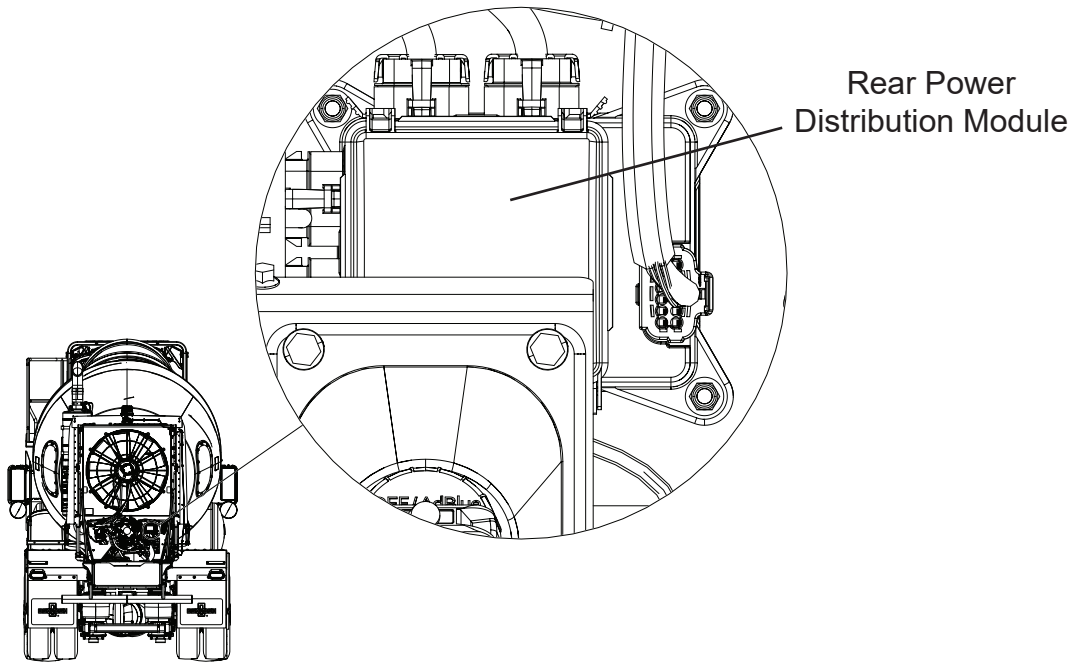

Figure 1
3. Open the engine cover hatch and locate the rear power distribution module, see Figure 1.